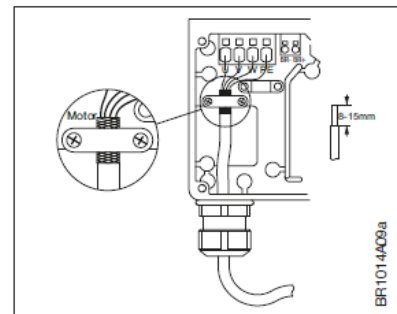

Fig. 3-11
- IMPORTANT! The motor cable must always be a shielded cable and the shield must be ended in the clamp intended for that purpose. See fig. 3-11.